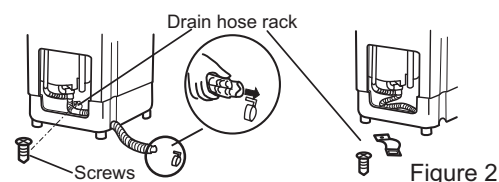

Figure 2
2. Put down the drain hose. Take off the drain hose rack. Then take off the screws of the drain hose rack. Put the drain hose into the cabinet. (As indicated in Figure 2).